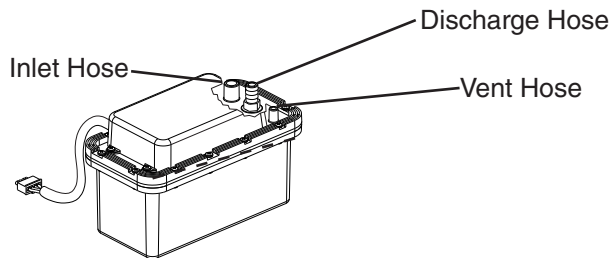

Fig. 6
6) Connect the discharge hose and vent hose to the drain pump. See Fig. 6. Secure the discharge hose with the medium hose clamp and vent hose with the small hose clamp. Do not over tighten.
7) Connect one end of the inlet hose provided in the accessory bag to the drain pump and the other end to the joint pipe provided with this kit. See Fig. 6. Secure with nylon ties.